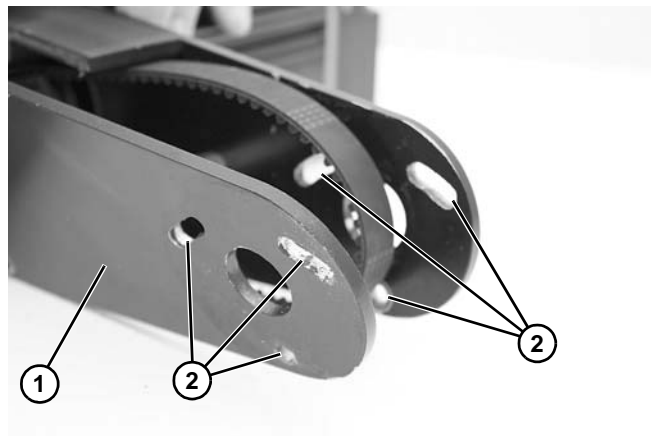

Figure 27
11. Install upper guard and front plate (**Figure 27, item 1**), making sure that holes (**Figure 27, item 2**) in front and rear plate are oriented in the same position.